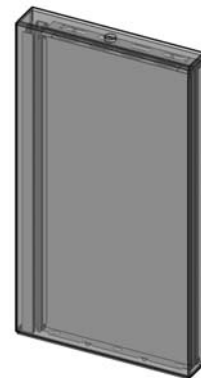

Figure 3 - Kasai stove sides packaging
- one contains the metal sides fig.3 pieces "6-7-8-9"